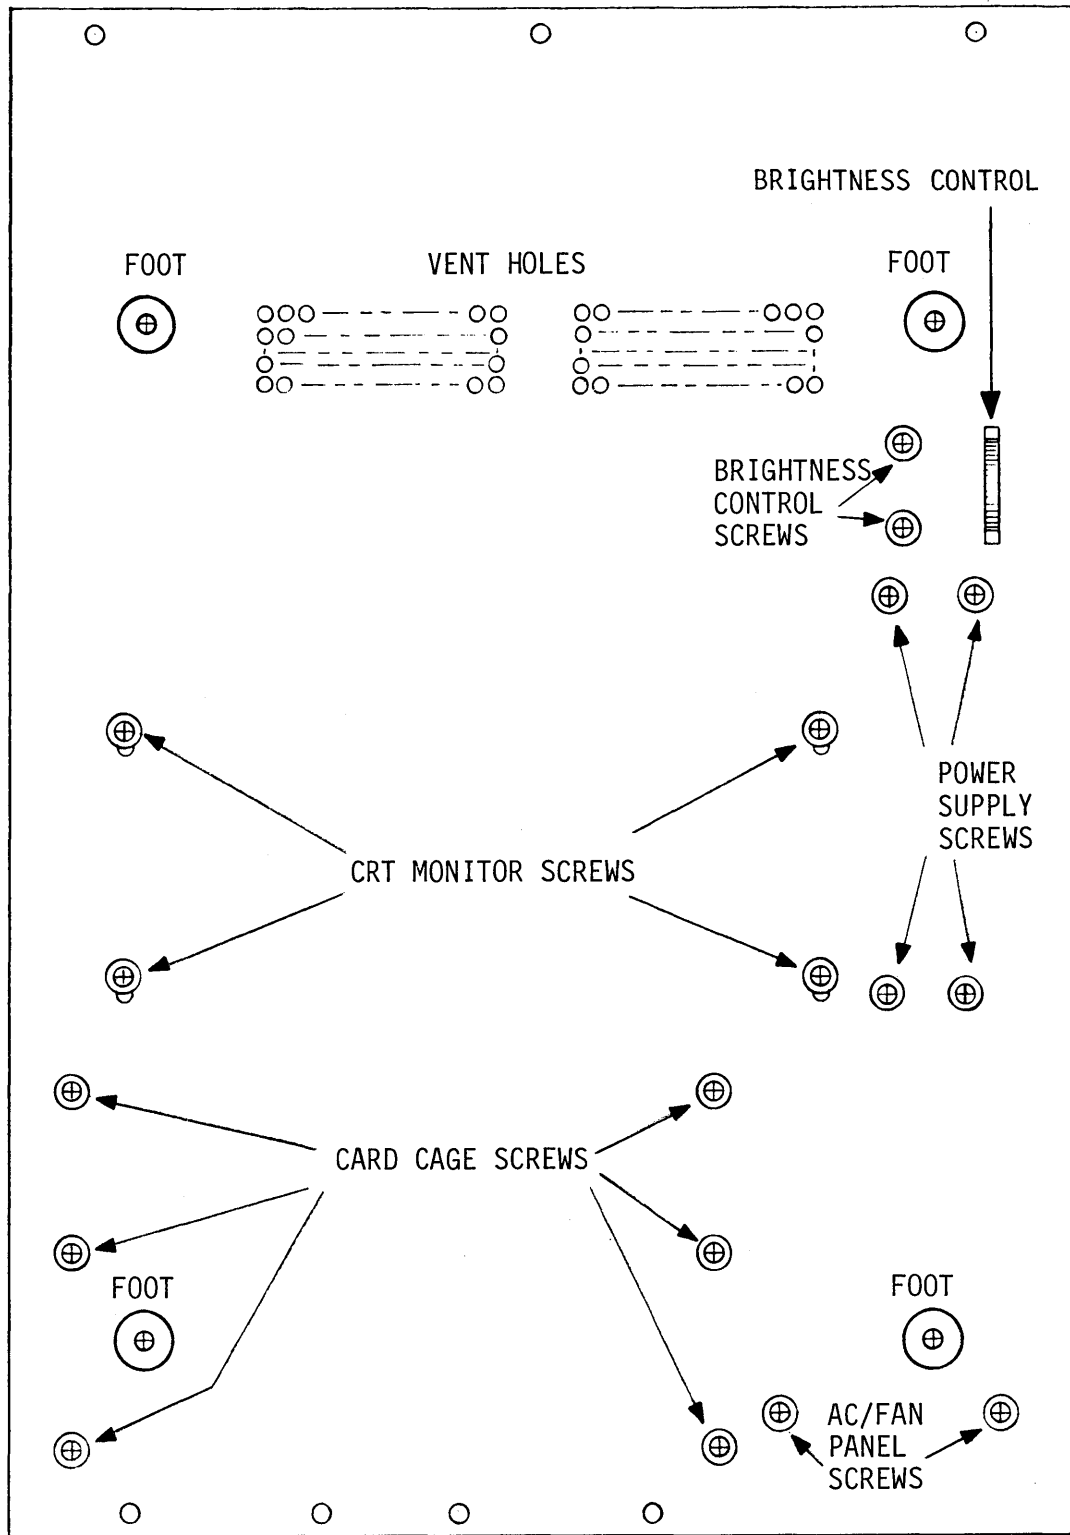

Figure 3-5. Console Bottom View
- c. Tip the console on its back and remove the four screws holding the power supply in place. See Figure 3-5, Console Bottom View.
- b. Remove the two screws holding the brightness control in place. Refer to Figure 3-5, Console Bottom View.